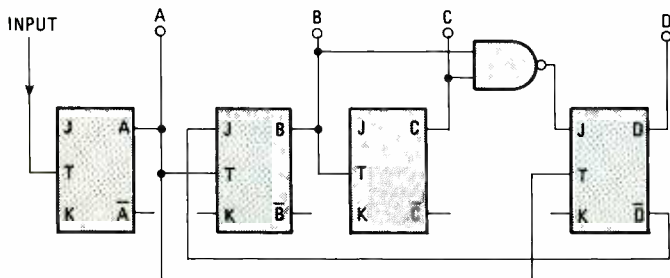

Fig. 11—Schematic diagram for a BCD counter. All unconnected J and K inputs are connected to a binary high (1).
By using flip-flops and gates it is possible to construct a BCD counter, that is one that counts by tens. It has ten states, 0 through 9. Such a counter is called a BCD counter, decimal or decade counter; you see one in Fig. 11. Notice that the first three flip-flops are cascaded as in a standard 4-bit binary counter with the normal output connected to the clock input of the next flip-flop in the chain. The last flip-flop on the other hand has its clock (T) input connected to the normal output of the A flip-flop. Note that the signal controlling the J input on the D flip-flop is derived from an AND gate that monitors flip-flops B and C. Also note that the complement output of the D flip-flop is fed back to the J input of the B flip-flop. The result of all those unusual inter-connections is that the counter has only ten states instead of the usual 16 for a 4-bit counter. The counter counts in the BCD sequence previously described in Fig. 10.
When the 10th input pulse occurs, the A and D flip-flops both reset. The feedback from the complement output of the D flip-flop prevents the B flip-flop from setting. Therefore, the counter cycles back to its original state of 0000. Following that description you may want to trace through the circuit yourself using the waveforms in Fig. 11 as a guide.